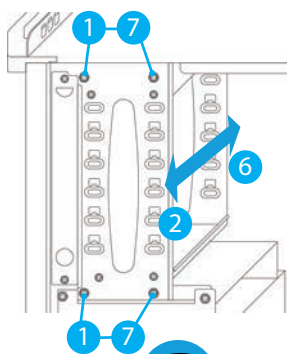

Figure 3.3.1.1.
7. Screw 4 hex bolts back, responsible for fixing the 3.5" internal bay to the server chassis – Figure 3.3.1.1-2.